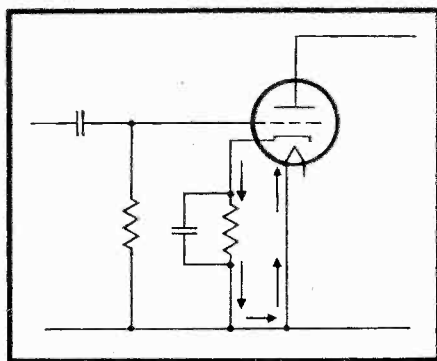

FIG. 1 THE ARROWS IN THE FIGURE ABOVE INDICATE THE PATH WHICH THE CATHODE LEAKAGE CURRENT TAKES.
**E**LECTRICAL leakage between an a.c. operated heater and the cathode of a vacuum tube can introduce low-frequency voltage into audio amplifier circuits and cause objectionable hum when it occurs in a stage in which there is considerable gain. High-frequency circuits are also subject to hum, if they allow the low-frequency voltage to modulate the signal. The principal source of this hum is a minute leakage current which flows between heater and cathode as outlined. The flow of this current through the self-biasing resistor or the parallel combination of resistor and by-pass condenser applies a hum voltage between the grid and cathode of the tube. The path taken by the leakage current when one end of the heater is grounded is shown in Fig. 1. Here, the voltage across the heater, especially that between the high voltage end and ground, causes the current to flow.
Another path is used by low frequency signals. This is produced by the reflection of waves from a layer of ionized air some distance above the earth. At night these "sky waves" are reflected in such a way that they interfere with the ground wave because of a phase difference between the two signals. The sky waves vary in strength with time of day, time of year, and atmospheric conditions. Fig. 1 illustrates the ground and sky wave components of a radio signal.
Fig. 1 At the a.m. broadcast frequencies, the transmitted wave is divided into three parts as illustrated above. At the frequencies used for f.m. broadcasting, the sky wave does not return to earth to cause interference.